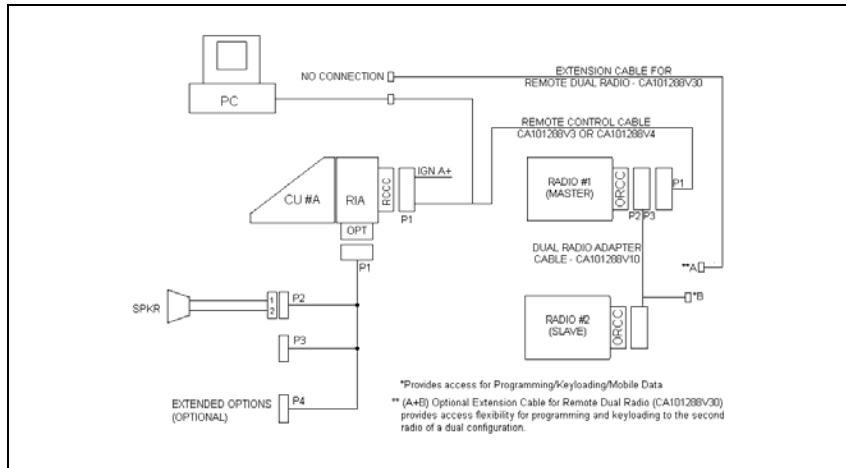

Figure 11-2: M7100^{IP} Dual Radio Remote Mount/Remote Mount Installation Configuration
1. Plan the mounting locations of the two Radio Units. Note that the maximum cable length allowed between the two radios is two meters. Referring to Figure 11-2, run Dual Radio Cable (CA101288V10) between locations for Master and Slave Radio Units. Be sure to locate the P2/P3 connector assembly at the Master Radio Unit.